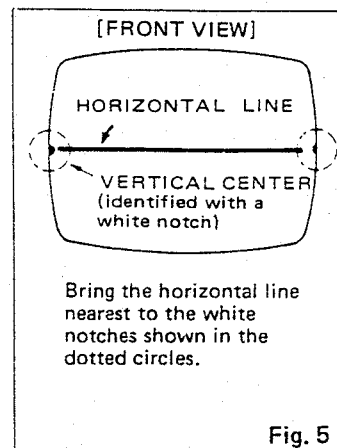

Fig. 5
6. Check the vertical center position by displaying a horizontal line. Unless correct, bring it to the center by rotating the two tabs, kept at an angle, together in either direction: (Fig. 5, 6)